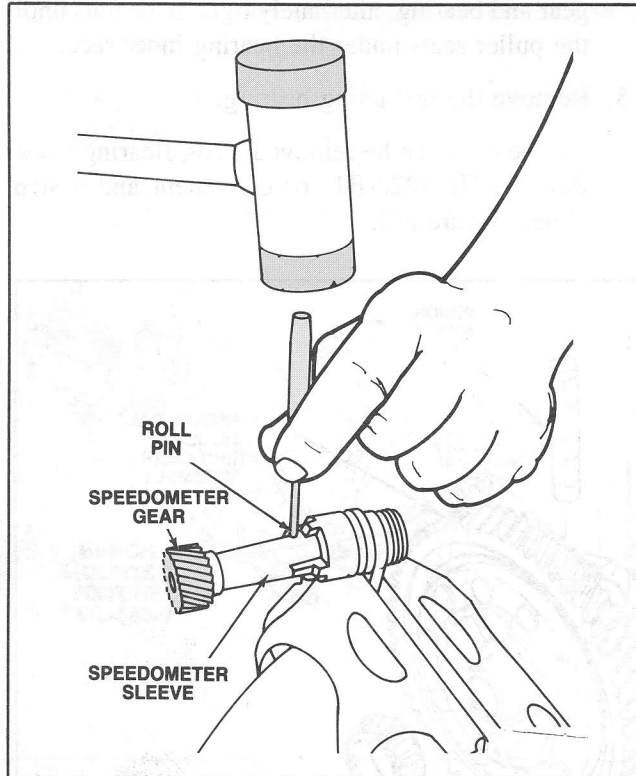

Figure 82 Roll Pin Installation
2. Install the roll pin. (Figure 82).